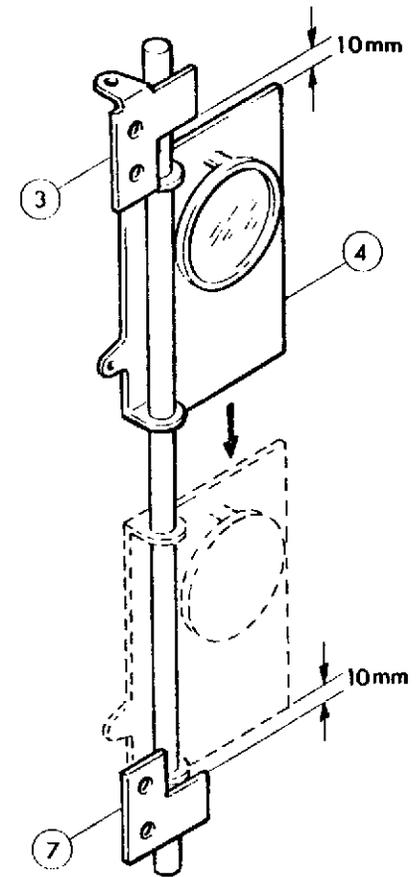

Fig.32
1. Make sure that (4) can move smoothly.
2. Attach (4) without inclination where it does not touch with the lamp case in operation.
3. Adjust the operation area of (17) by bending (1) so that a clearance between (3) and (4) is 1.0mm when the operation knob is at OFF as shown in Fig. 32.
4. Adjust the position of (21)(9) where light passes thru a heat-proof glass when the operation knob is at STILL.
5. Adjust the position of (17) where a clearance between (4) and (7) is within 1.0mm when the operation knob is at FORWARD as shown in Fig. 32.